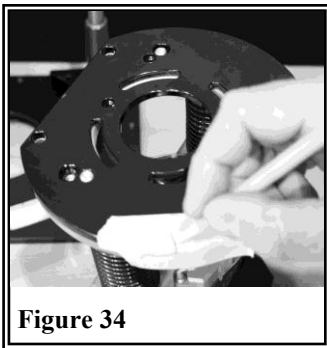

Figure 34
2. Turn the router upside down and transfer this mark to the router sub base. (See Figure 34)